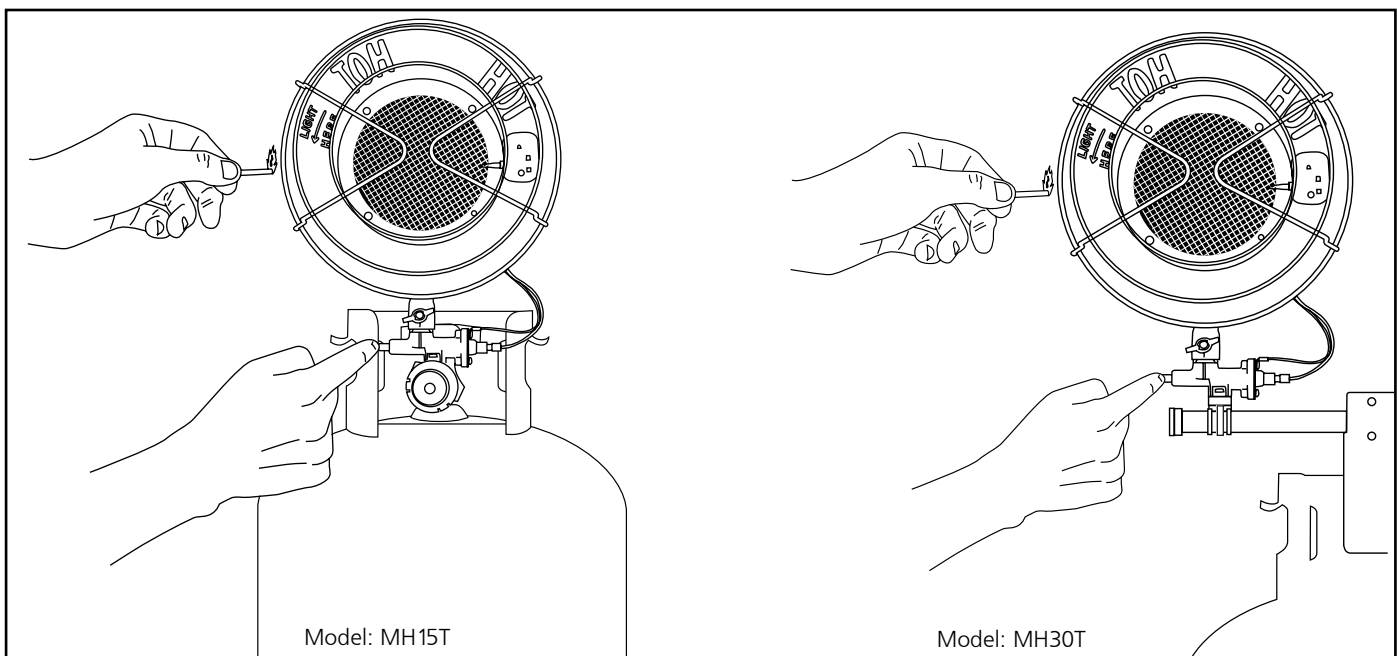

Figure 5.
- D. To light heater, place a lit match across the mesh screen where you see "light here" on the reflector. (See Figure 5) THEN push in valve button on Safety Shutoff Valve. After the heater is lit, continue to hold valve button in for 30 seconds, then release the button slowly. **CAUTION: DO NOT PUSH IN VALVE BUTTON BEFORE INSERTING LIT MATCH. NEVER STAND IN FRONT OF HEATER WHILE LIGHTING. REPEAT STEP "D" FOR EACH BURNER.**